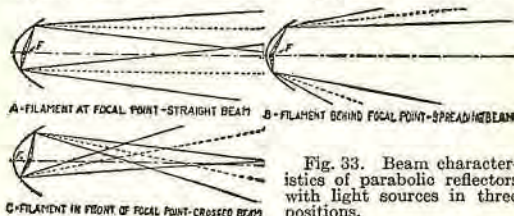

Fig. 33. Beam characteristics of parabolic reflectors with light sources in three positions.
What actually happens to the light rays from the light source in a parabolic reflector, such as is generally used for automobile headlamps, is shown in Fig. 33.
When that source is as shown at (A), (Fig. 33) the lamp bulb is at the focal point of the reflector. When the source is in position (B), the lamp bulb is behind the focal point. When the source is in position (C), the lamp bulb is ahead of the focal point.